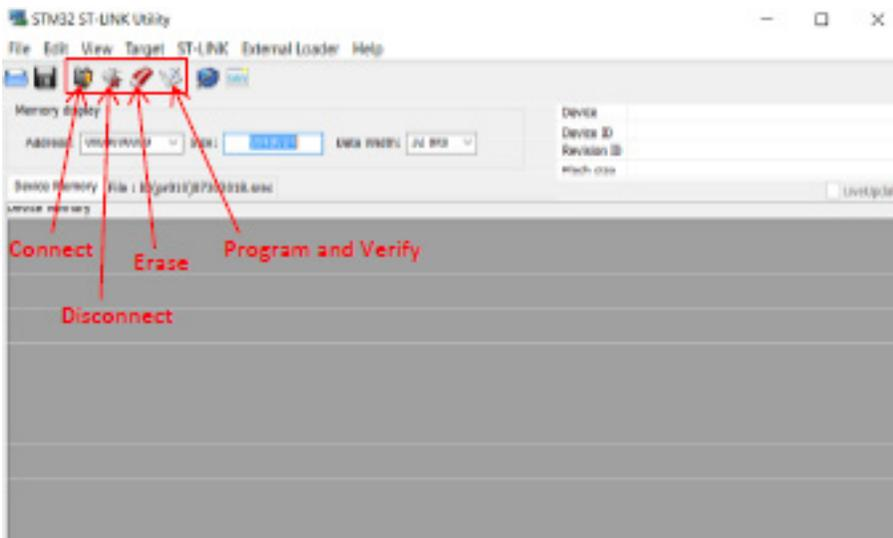

Figure 2: ST-Link Display
5. After opening the program, it should match Figure 2: